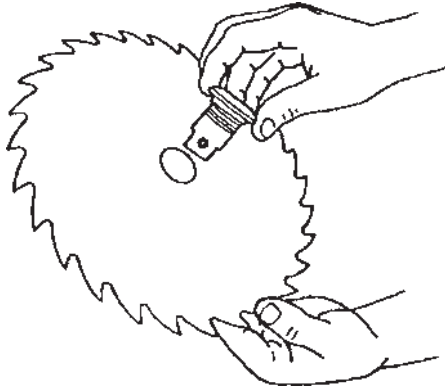
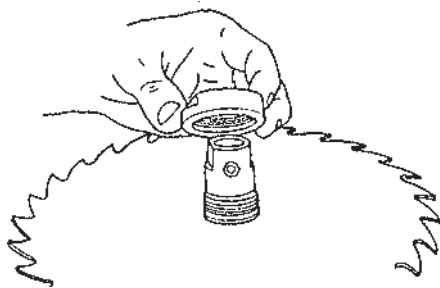

Figure B-59b
Figure B-59c
- b. Hold the blade with the teeth pointing toward you, as shown in Figure B-59b, then insert the arbor through the hole. Replace the nut and finger tighten it, as in Figure B-59c.